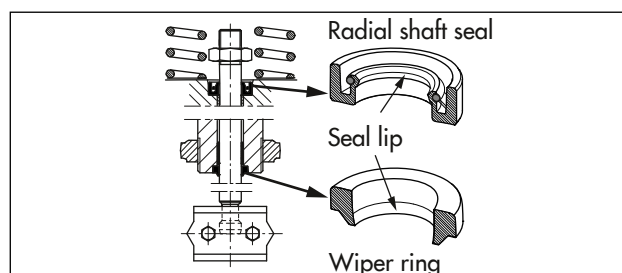

Fig. 17: Aligning the radial shaft seal and wiper ring
6. Use a suitable tool to mount the radial shaft seal. Observe the correct alignment of the radial shaft seal (see Fig. 17).
7. Use a suitable tool to mount the radial shaft seal. Observe the correct alignment of the radial shaft seal (see Fig. 17).